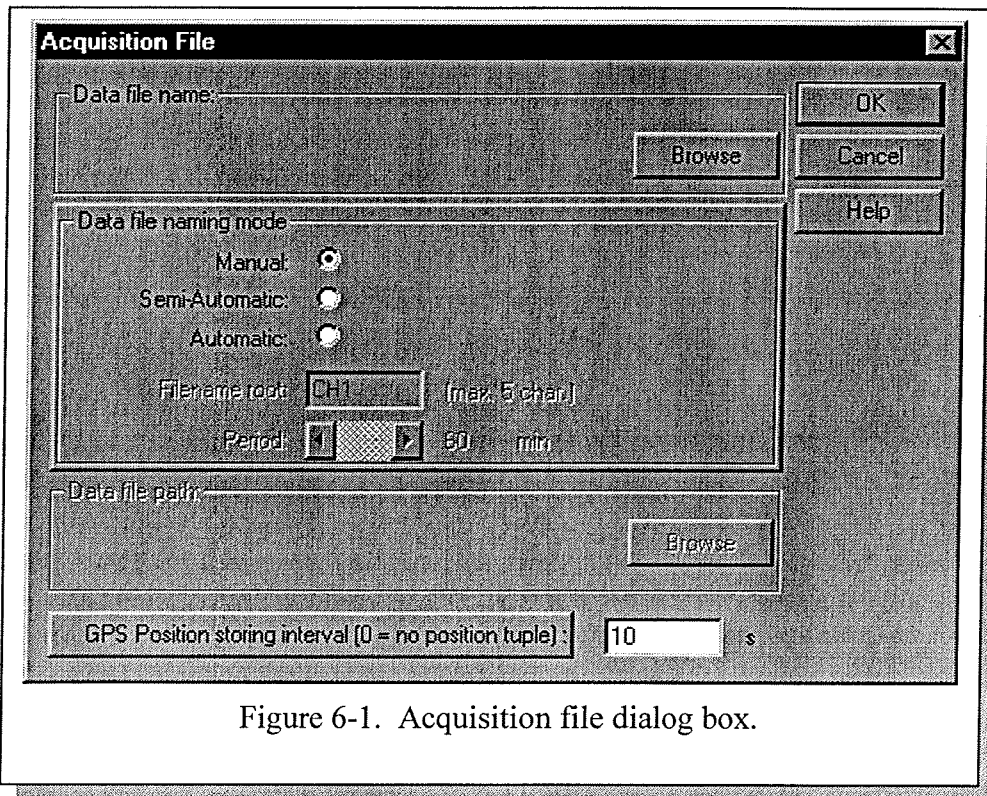

Figure 6-1. Acquisition file dialog box.
6.1 Acquisition (data) / File (Figure 6-1.)